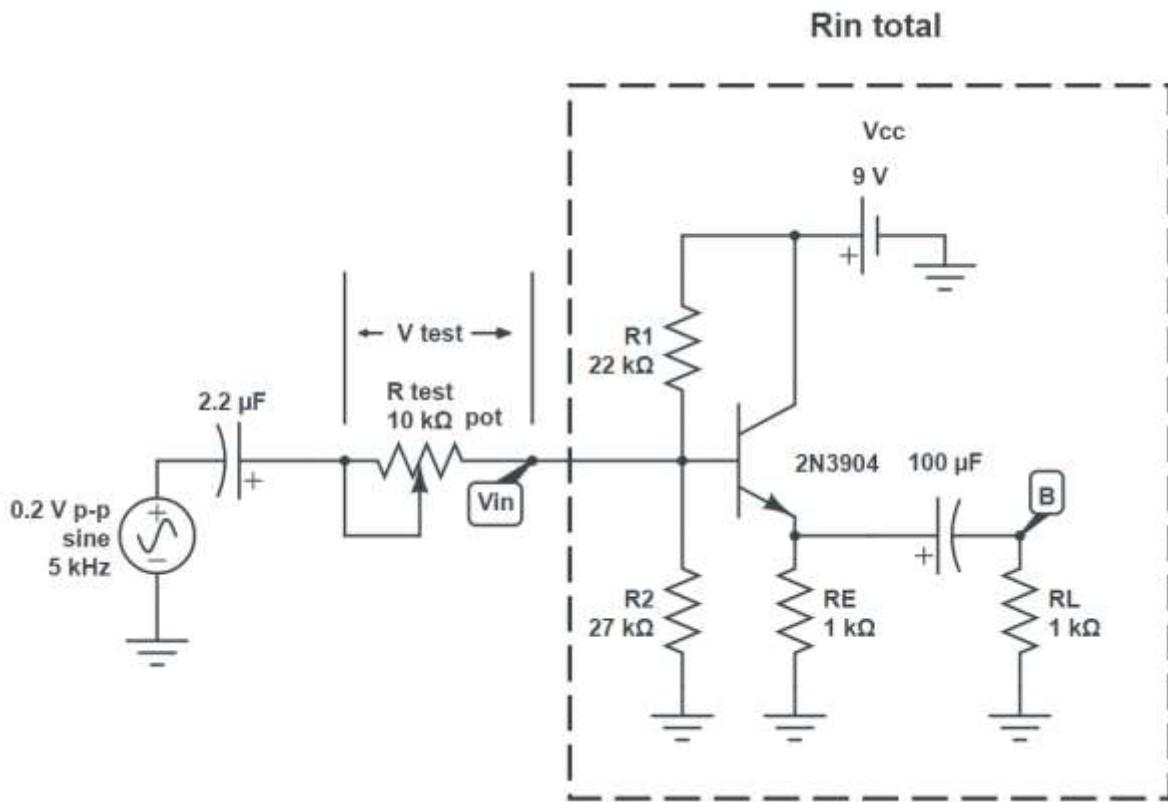

FIGURE 8-3: Measurement of $R_{in(total)}$
7. Replace the load resistor R_L to $1k\ \Omega$. Insert a $10k\ \Omega$ potentiometer in between the base and the C1 capacitor as shown in Figure 8-3. Set the potentiometer to the point that the output peak to peak voltage (for $R_L = 1k\ \Omega$) drops to half of the previous output (Step 5). Then measure the resistance of the potentiometer, which will be $R_{in(tot)}$. Use the measured $R_{in(tot)}$ and R_L to determine the measured power gain. Record this value in Table 8-4.